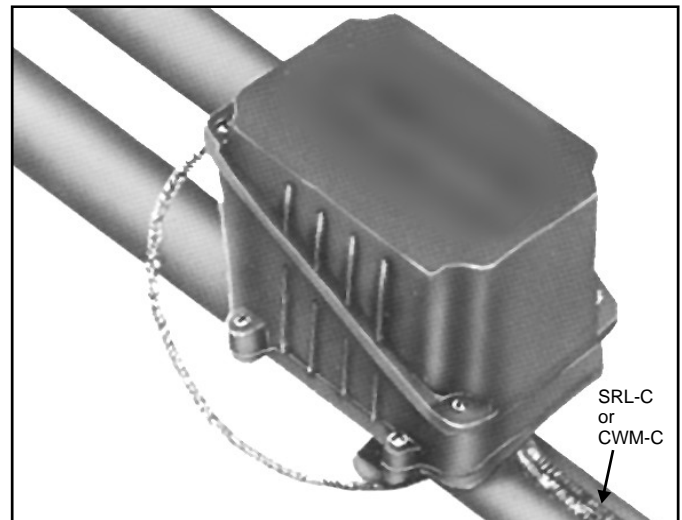

Figure 17
Unravel four (4) inches of braid from the cable and twist into a pigtail. **WARNING: Connect to appropriate grounding source.** See Figure 17.